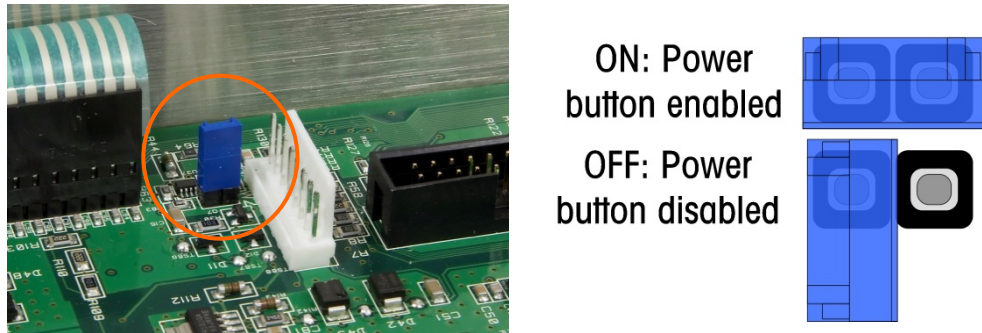

Figure 3-47: On/Off Key Disable Jumper
There is a jumper, W2, close to the keypad connection that determines if the On/Off key operates or if the key function is disabled and the IND560x terminal always power up in the "On" condition. In applications where an operator is not normally present, it is suggested that the jumper be removed from the two pins so the terminal will return to operation after a power outage. Figure 3-47 indicates the jumper's location and positions.
- When removing the W2 jumper for disabling the On/Off key, reposition it on just one of the pins as shown at lower right in Figure 3-47. The On/Off jumper settings are described in Table 3-21.